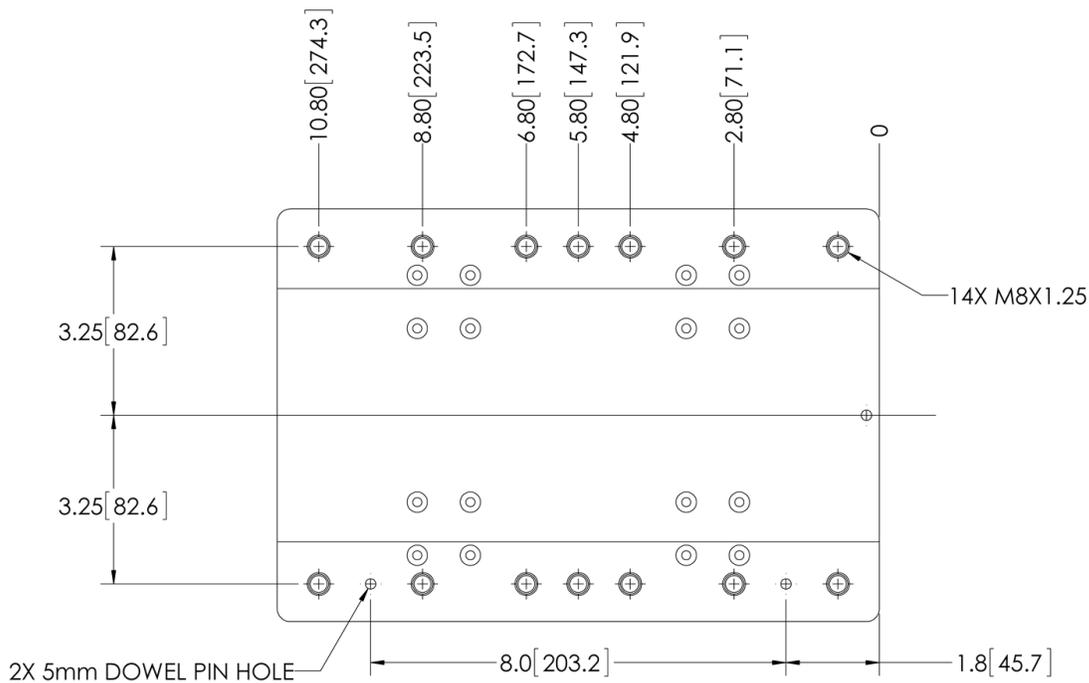

Figure 1: Carriage Bolt Hole Pattern
The bolt pattern on the Carriage has been designed to facilitate process equipment installation. The Carriage has (14) fourteen M8x1.25 mounting holes with a depth of 0.51 inch (13 mm) to provide secure attachment points. The mounting holes are spaced 6.5 inches (165.1 mm) across and on 1 inch (25.4 mm) and 2 inch (50.8mm) centers along the length of the Carriage. (See Figure 1) The Carriage also has (2) four 5mm dowel pin holes to facilitate alignment. (See Figure 1 for location) These dowel pin holes are oversized to allow the pins to be glued into place using Loctite 609, or equivalent. **Only utilize 4 of the M6x1 mounting holes; using more than 4 may cause warping of the carriage.**